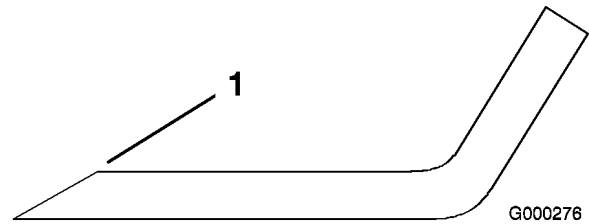

Figure 78
1. Use a file to sharpen the cutting edge at both ends of the blade (Figure 78). Maintain the original angle. The blade retains its balance if the same amount of material is removed from both cutting edges.